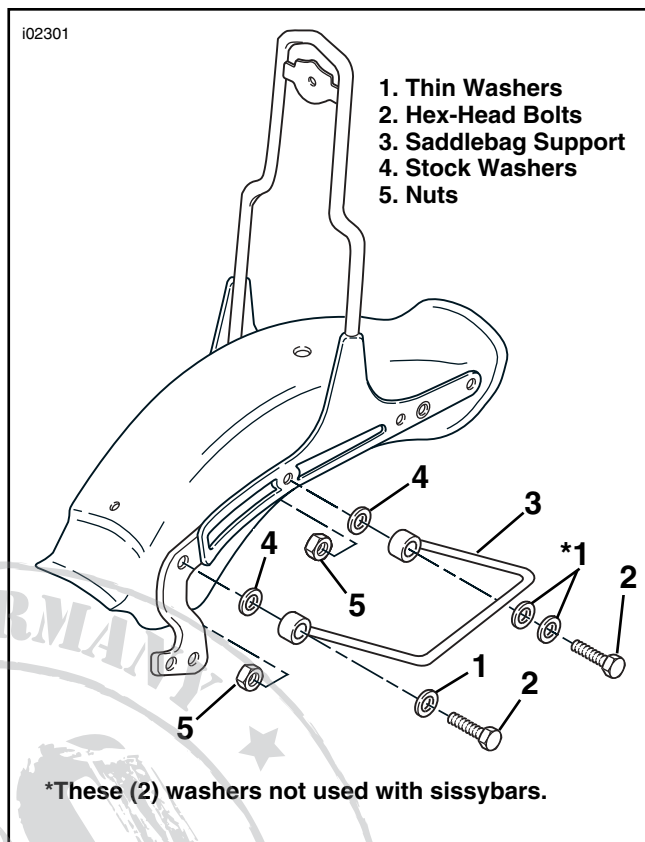

Figure 4. Saddlebag Support Installation, 2000 Through 2002 FXST, FXSTB, FXSTS
2. See Figure 4. The saddlebag supports (3) are side-specific.